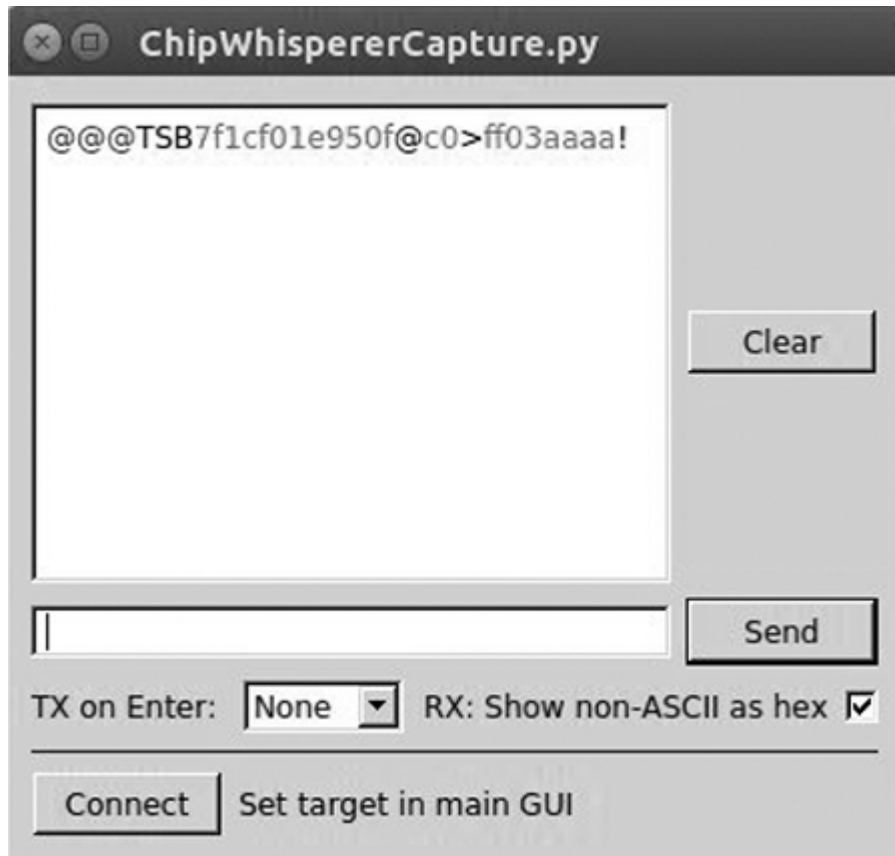

Figure 8-12: ChipWhisperer serial terminal
4. The ChipWhisperer comes with a simple serial terminal interface. Choose **Tools** ▶ **Open Terminal** to open it. You should see a terminal like the one shown in Figure 8-12.
5. Set TX on Enter at the bottom of the terminal to **None**, and check the box that says **RX: Show non-ASCII as hex** (see Figure 8-12). Now click **Connect** to enable your text areas.
6. Enter **@@@** (TinySafeBoot's start-up password) in the text field to the left of the Send button, and click **Send**. The bootloader should start with TSB and mainly contain information about the firmware version and AVR settings. TSB is just an identifier used by TinySafeBoot, most likely its initials. The output should match that in Figure 8-12.